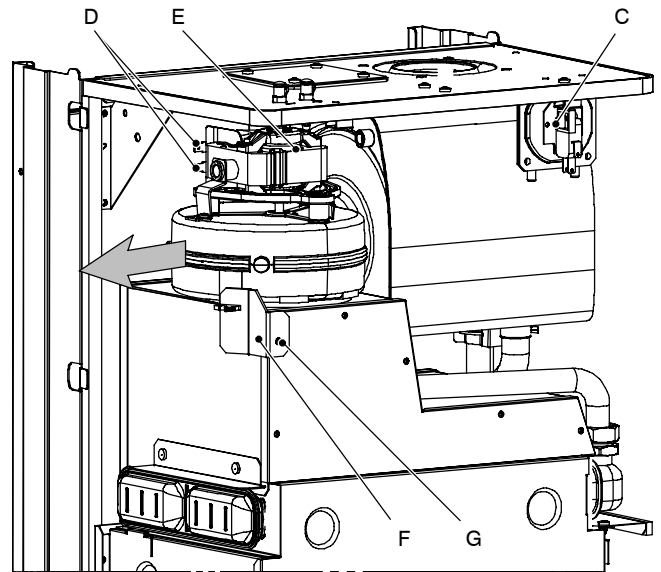

Fig. 81
- 4 Unscrew the screw *F* and remove the bracket *G* (Fig. 81).
- 5 Remove the Fan by sliding it towards left (see the arrow in Fig. 81).